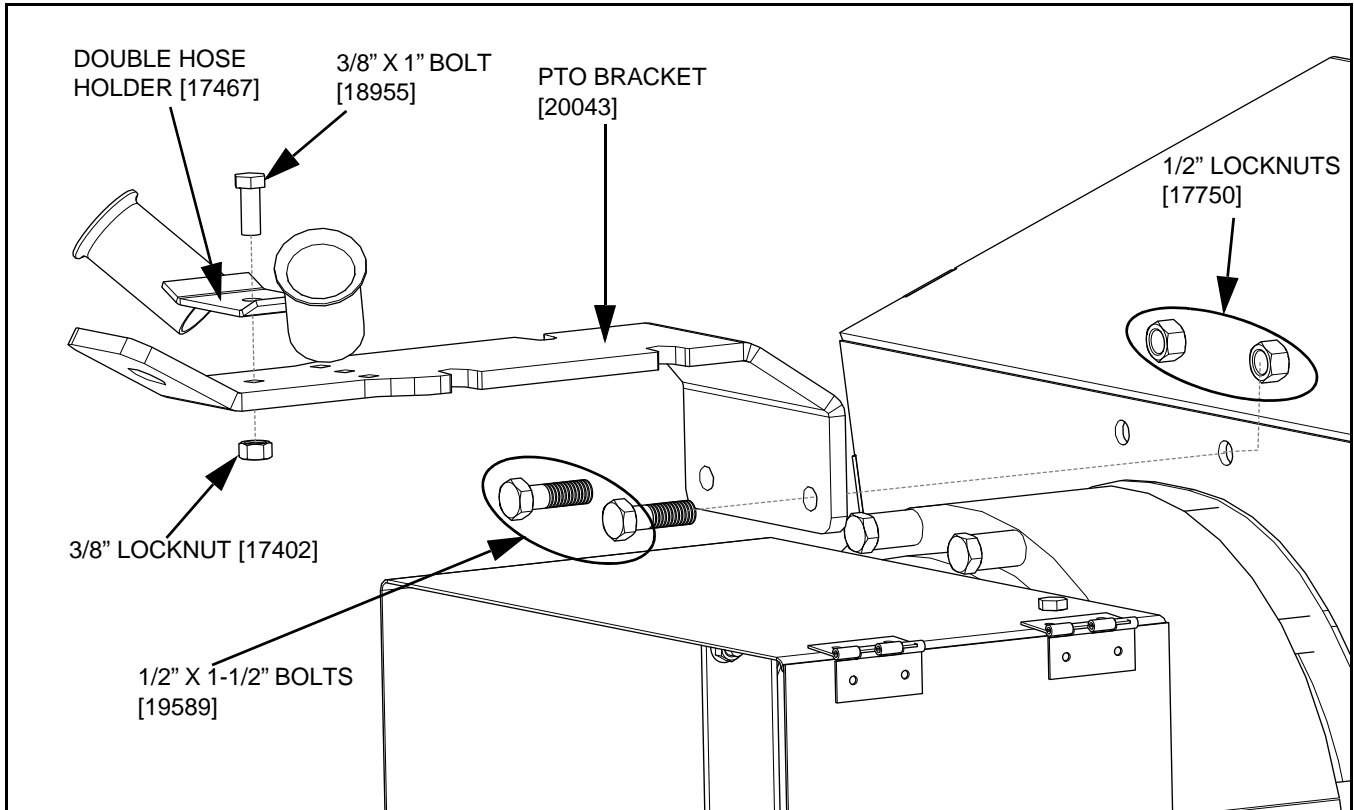

Figure 3 Installing PTO Bracket and Double Hose Holder
10. Attach PTO bracket to boot with two 1/2" x 1-1/2" bolts and nuts. Tighten securely (see Figure 3).